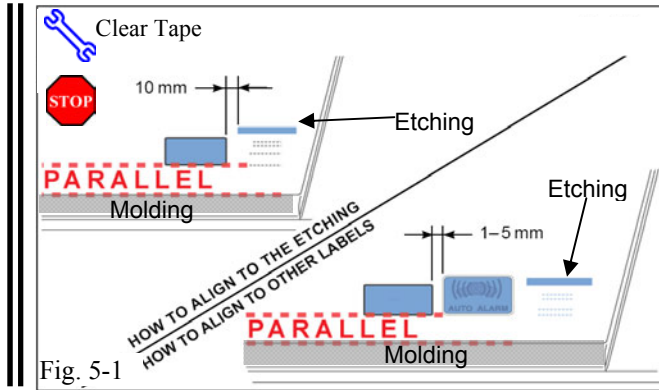

Fig. 5-1
- Attach the Label as shown. (Fig. 5-1)
**STOP** NOTE: Make sure to Align according to Etching or Other Label. (Fig. 5-1)